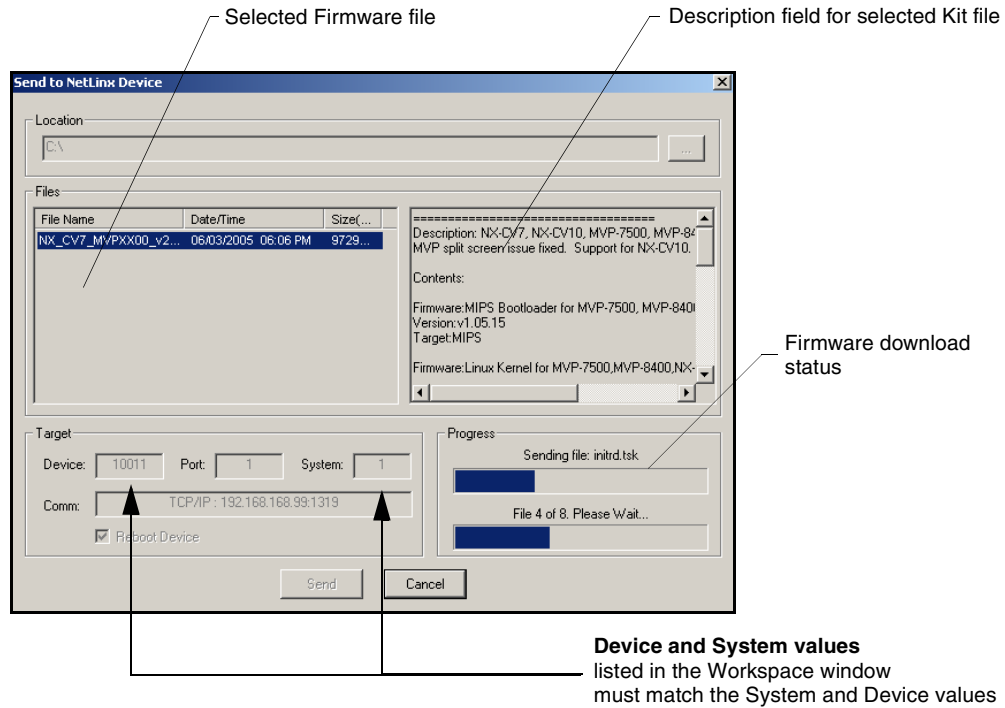

FIG. 52 Send to NetLinux Device dialog (showing Modero firmware update via IP)
- From within Studio, select **Tools > Firmware Transfers > Send to NetLinx Device** from the Main menu to open the Send to NetLinx Device dialog (FIG. 52). Verify the panel's System and Device number values match those values listed within the System folder in the **OnLine Tree** tab of the Workspace window.
7. Select the panel's Kit file from the **Files** section (FIG. 52).
10. Click **Send** to begin the transfer. The file transfer progress is indicated on the bottom-right of the dialog (FIG. 52).